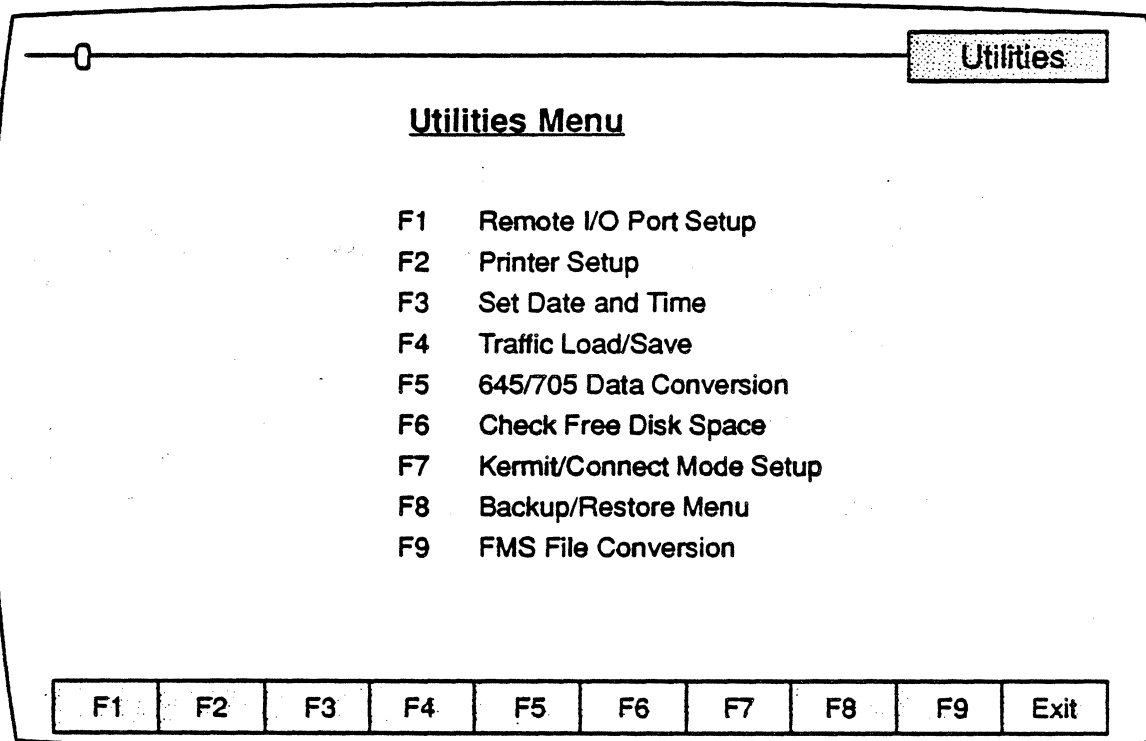

Figure 9.1: Utilities Menu
2. Use the **Select** key to make the Utilities page active. You can then display the page (Figure 9.1 below), and use its function keys, as described on the following pages.